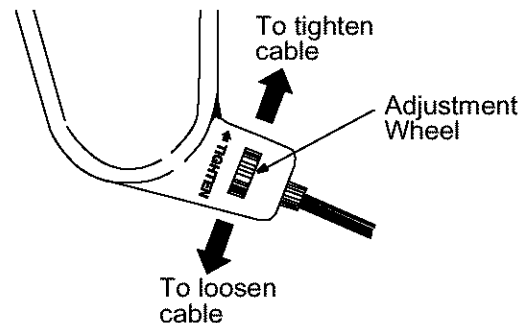

Figure 15
- To resolve the above problems, rotate the adjustment wheel with your fingers: clockwise to tighten the cable, and counter-clockwise to loosen the cable. See Figure 15 .